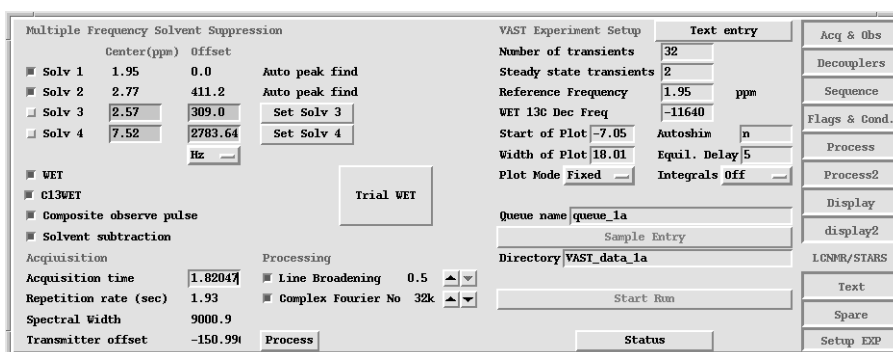
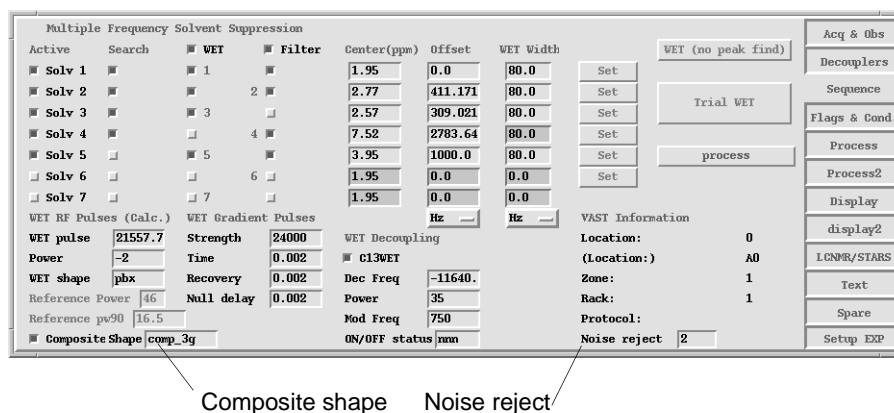

Figure 78. VAST Pane
Figure 80. VAST Sequence Pane and Frequency Suppression Options
8. Click on the **LCNMR/STARS** tab to open the **VAST pane** see Figure 78.
- b. Specify **acquisition and processing options** for each signal. Each **Solv** selection, see Figure 80, has four choices:
Each choice may be applied individually or in any combination. The choices are only active if the Active button for a given Solv is RED, see Figure 80. Currently the software limits post acquisition filtration to a maximum of 4 signals (more than four then filter buttons to may be set to active in the tcl pane). If five or more filter buttons are active, only the first four active Solv with filtration selected will be active.
14. **Select Composite observe pulse** in the **LCNMR/STARS** pane (Figure 78) if you can achieve a pw90 of 3.0 or 4.4 μ s. This will produce better looking data. Comp shape in the Sequence pane (Figure 80) must also be properly set (for pw=3.0 use comp_3pos and for pw=4.4 use comp_44g).
16. Set **Noise reject** to **3** in the **Sequence** pane, see Figure 80.
17. Click on the **Trial WET** button in the **VAST** pane, Figure 78, to perform further optimizations. This starts the Scout Scan process. Two spectra are produced: